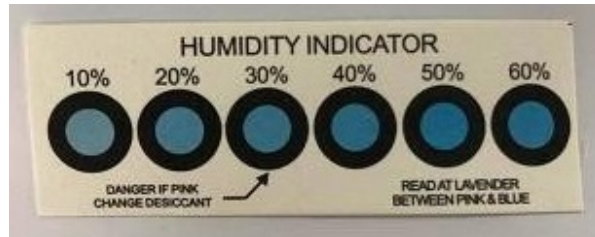

Figure 5-4 Normal Humidity Indication
- When the 30% circle is blue, the humidity condition is normal. See **Figure 5-4**.